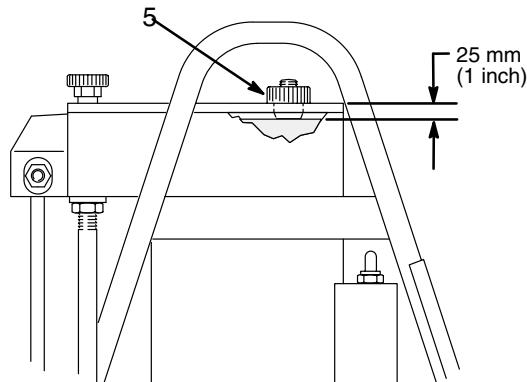

Fig. 1
4. **Check the hydraulic oil level.** Unscrew the fill cap (5). The oil should be 1 inch (25 mm) from the top of the plate. If the oil is low, fill as necessary with light-weight hydraulic oil; use only Graco Hydraulic Oil, Part No. 218-797. Install the fill cap. See Fig. 1.